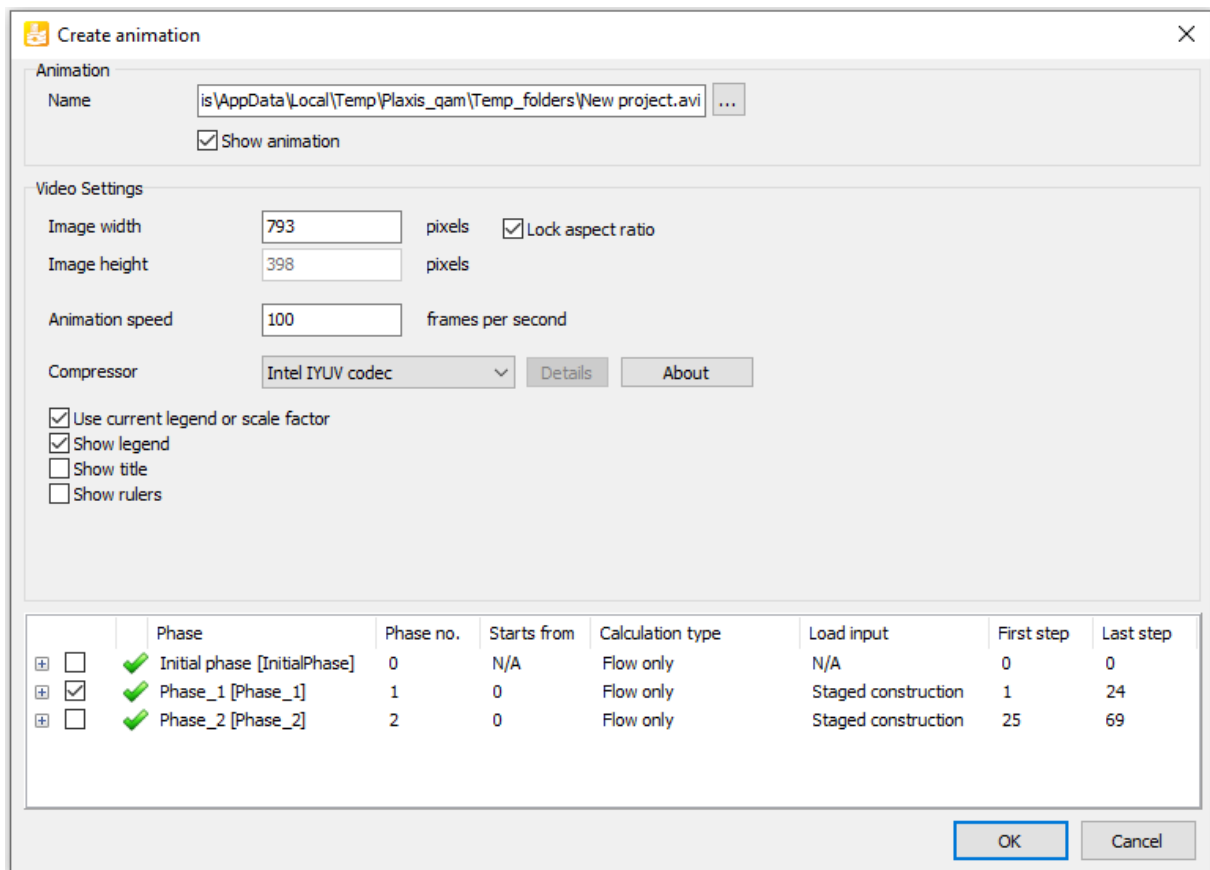

Figure 159: *Create animation* window
4. Deselect the Initial phase and Phase 2, such that only Phase 1 is included in the animations and rename the animation accordingly. The **Create animation** window is shown in Figure 159 (on page 184):